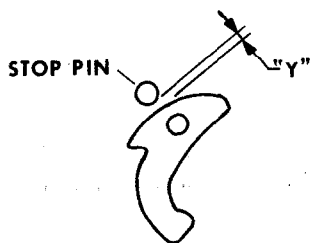

Figure 5. Flyweight/Axle Wear Check (Push)
- c. Remove the hook wire from the flyweight and insert additional feeler gages between stop pin and flyweight as required to push the flyweight directly in toward the magneto rotor shaft as far as possible. Force exerted to insert feeler gages should be limited to that required for any normal feeler gage measurement. Record the measurement obtained ("Y" of figure 5).